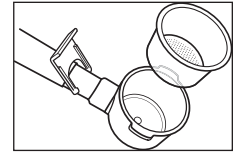

FIGURE 1
1. Place the filter in the brew basket. (See Figure 1)